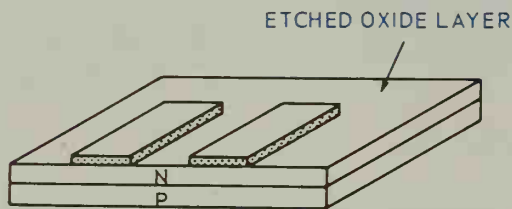

Fig. 19-10. The first masking and etching is for isolation of components.
4. Then, the wafer is etched with hydrofluoric acid and unexposed areas of silicon dioxide are etched away. Steps 3 and 4 are shown in Fig. 19-10.